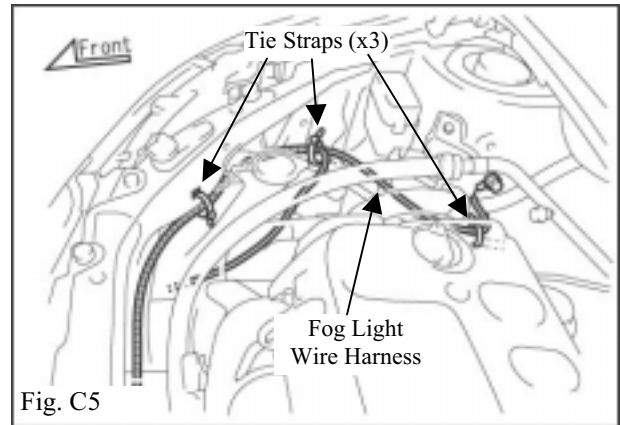

Fig. C5
- ➔ 8. Route the fog light wire harness through the hole below headlight along vehicle harness. (Fig. C5)
- ➔ 9. Secure the fog light wire harness to vehicle harness with three tie straps at positions shown. (Fig. C5)